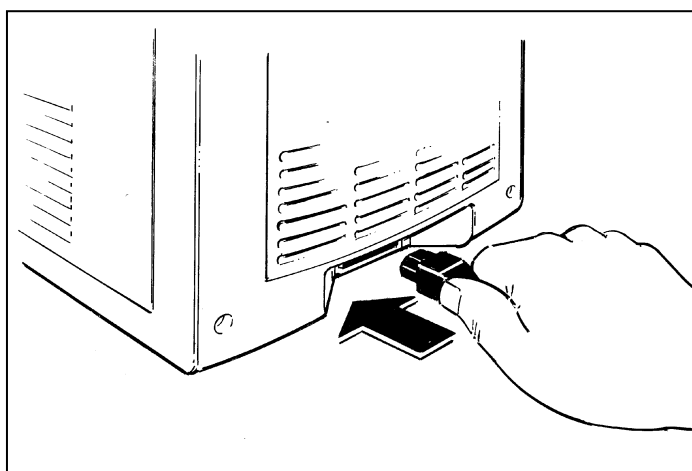

Fig. 23
- Insert the female plug into the electrical power inlet (fig.23) and then the male one into the power supply socket.